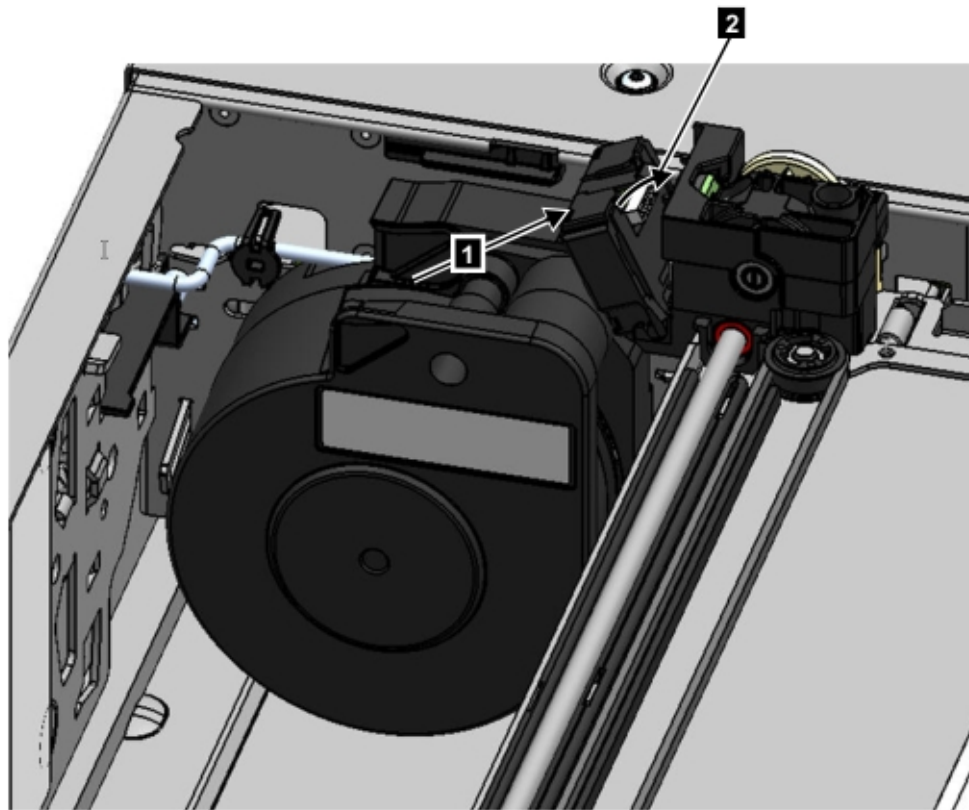

Figure 77. Installing the spooling cable
5. Place the spooling cable into the grooves where it attaches to the accessor and rotate it until it snaps into place. See Figure 77 on page 158.